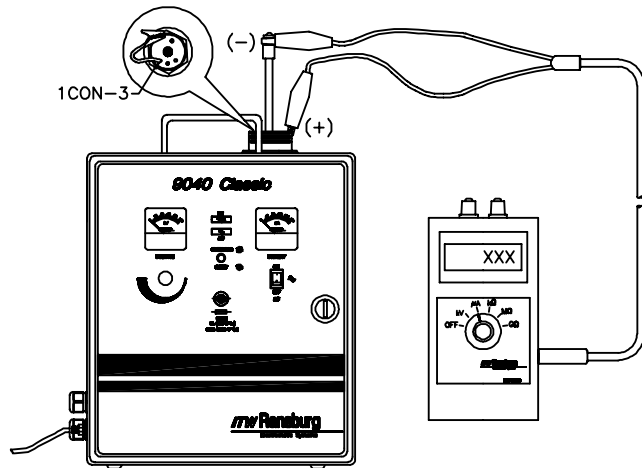

Figure 6: Current Output Test
When a lack of high voltage at the applicator indicates a problem, a Current Output (SCI) Test should be performed to help determine if the power supply is at fault (see Figure 6).
7. Using the clip lead, short circuit the High Voltage Cable Connector pin 1CON-3 to ground (rim of High Voltage Cable Connector), as shown in the balloon of Figure 6. When proper connection is made, the red high voltage ON Indicator will light.